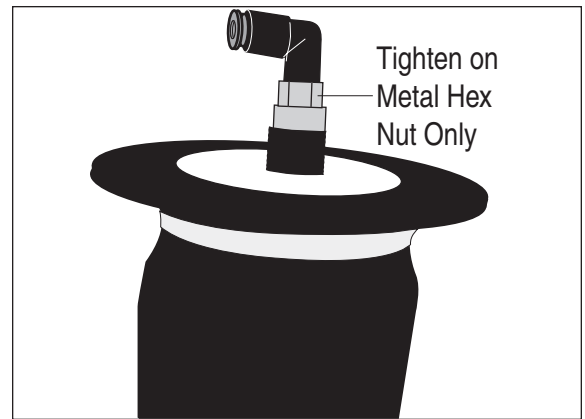

Figure 1
1. Install 90 degree air swivel fitting (D) to the top of the air spring. Use an open end wrench being careful to tighten on the metal hex nut only. Tighten 1 and 1/2 turns (Figure 1). Do not over tighten.